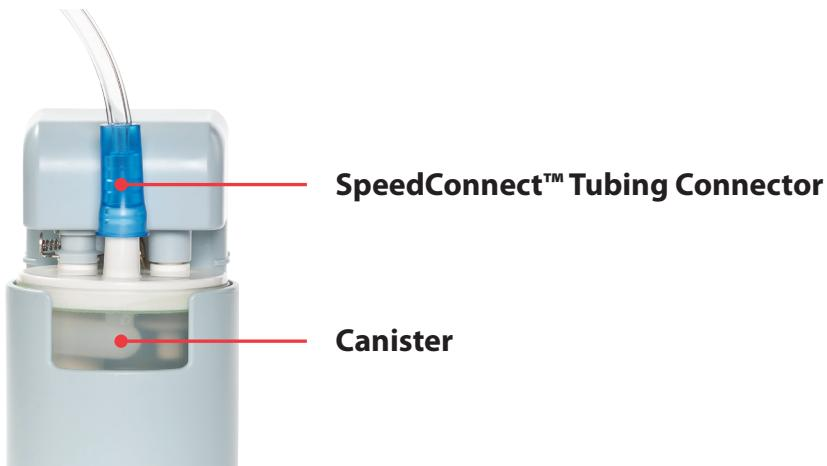
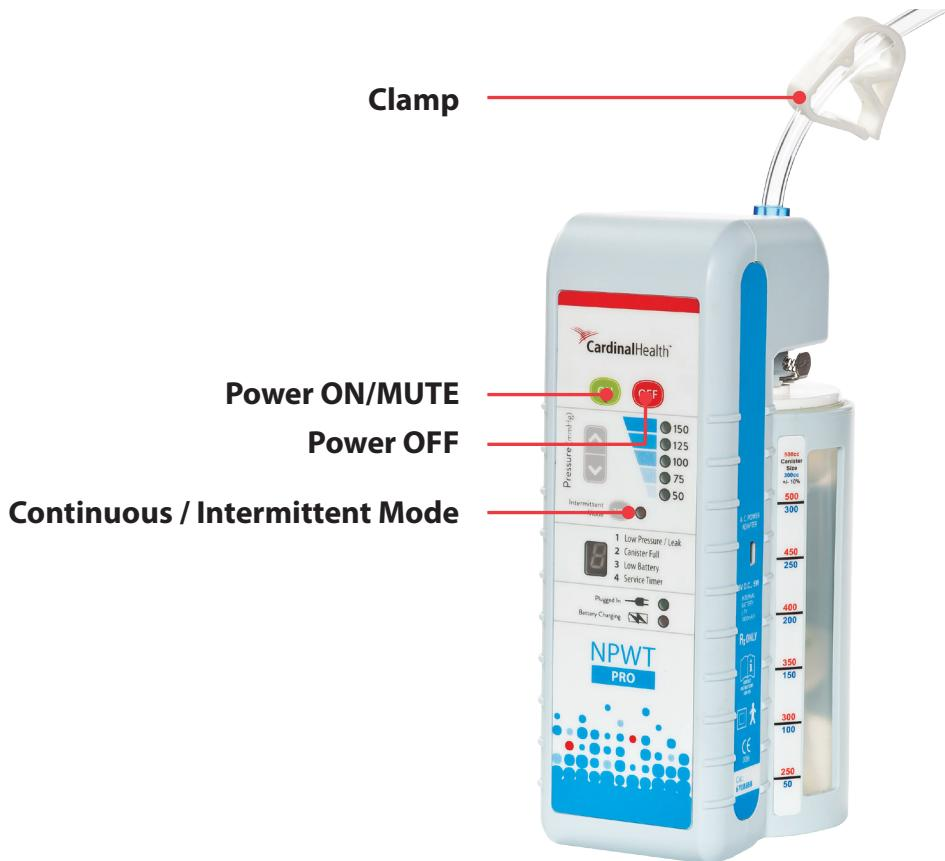

Figure 15
Figure 16
3. Connect the distal end of the SpeedConnect™ tubing with the blue tapered connector to the patient port of the Canister (**Figure 15**). Gently twist and push the connector on just enough to secure and seal it. Also, make sure that the clamp on the SpeedConnect™ tubing is open (**Figure 16**).